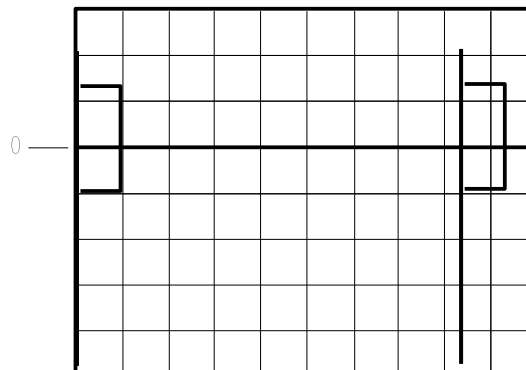

Figure 4
6.2.15 Waveform on scope (BGATE) should look figure 4 below: